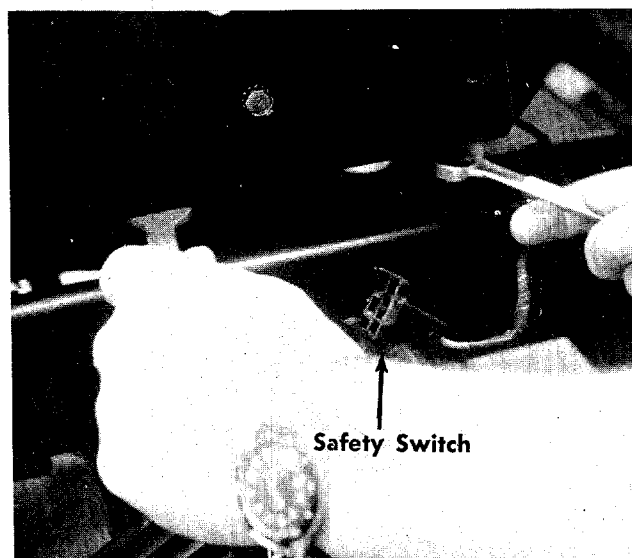

FIGURE 9 BELT GUARD REMOVAL
- h. Unplug the safety switch. See figure 9.
- i. Remove the two bottom bolts on the belt guard. Lift off the belt guard. See figure 9.